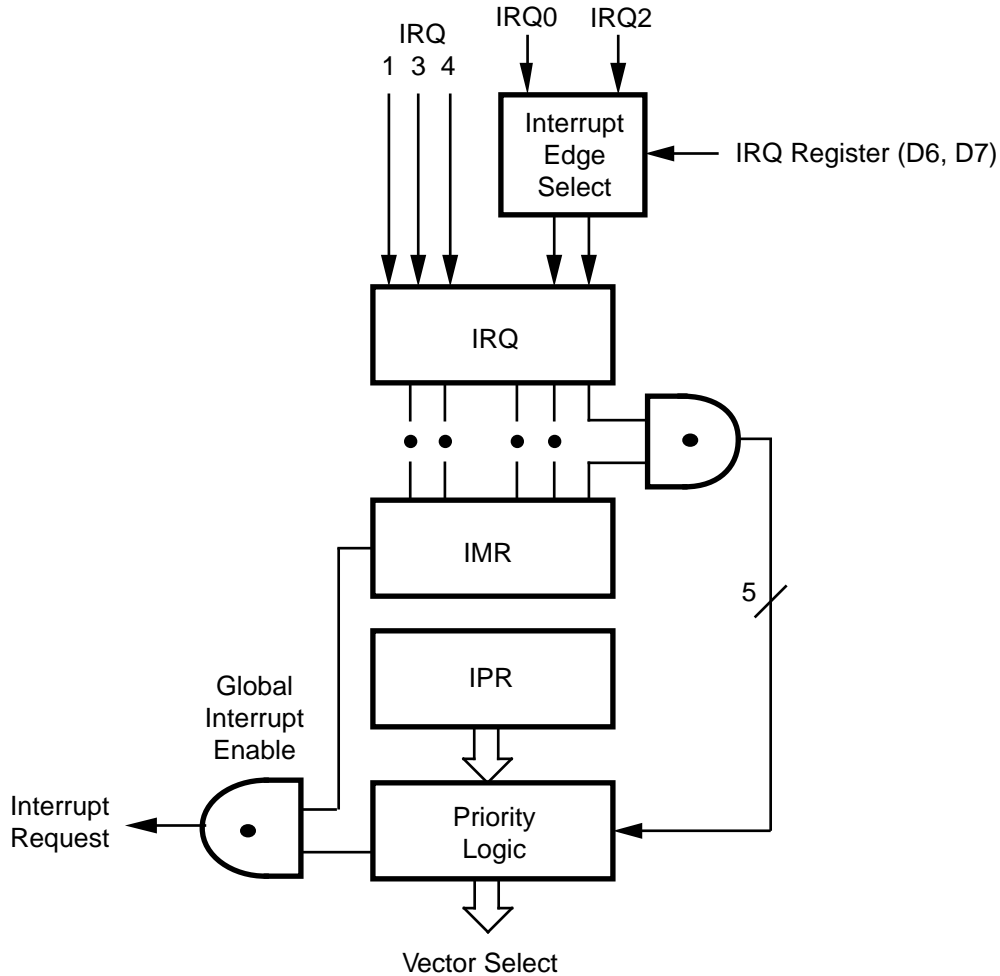

Figure 30. Interrupt Block Diagram
**Interrupts.** The Z86L78 has five different interrupts, which are maskable and prioritized (Figure 30). The five sources are divided as follows: two are claimed by Port 3 lines P33, P31, one by the low voltage detect circuit (IRQ0) and the